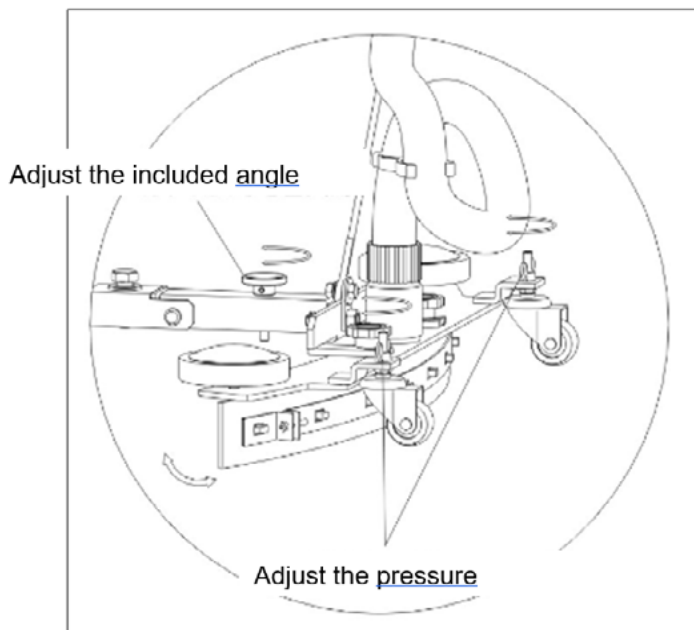

Figure8
8. With the regulating handle of squeegee, increase or decrease the angle between the squeegee and the floor. The suction of dirt would be efficient with a suitable included angle.(see figure8)
- screw the casters up a bit, to give the squeegee the best working efficiency (see figure 8).
- Check whether the angle between the scraper and ground is proper; if not, you can adjust the angle by regulating the hand wheel. (Seen in figure8)